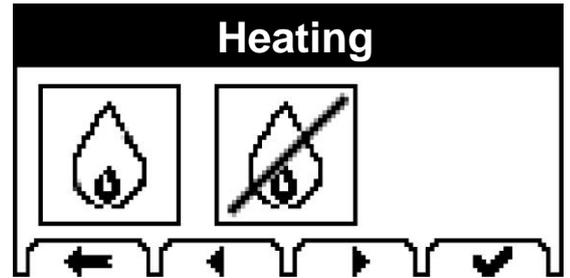

Fig. 5.7
- Then select either the phase with or without heating, as desired (Fig. 5.7).